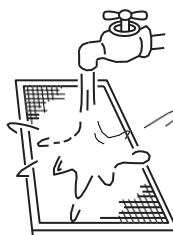

Fig. 2
- The air-in side should face down when using water (see Fig. 2).